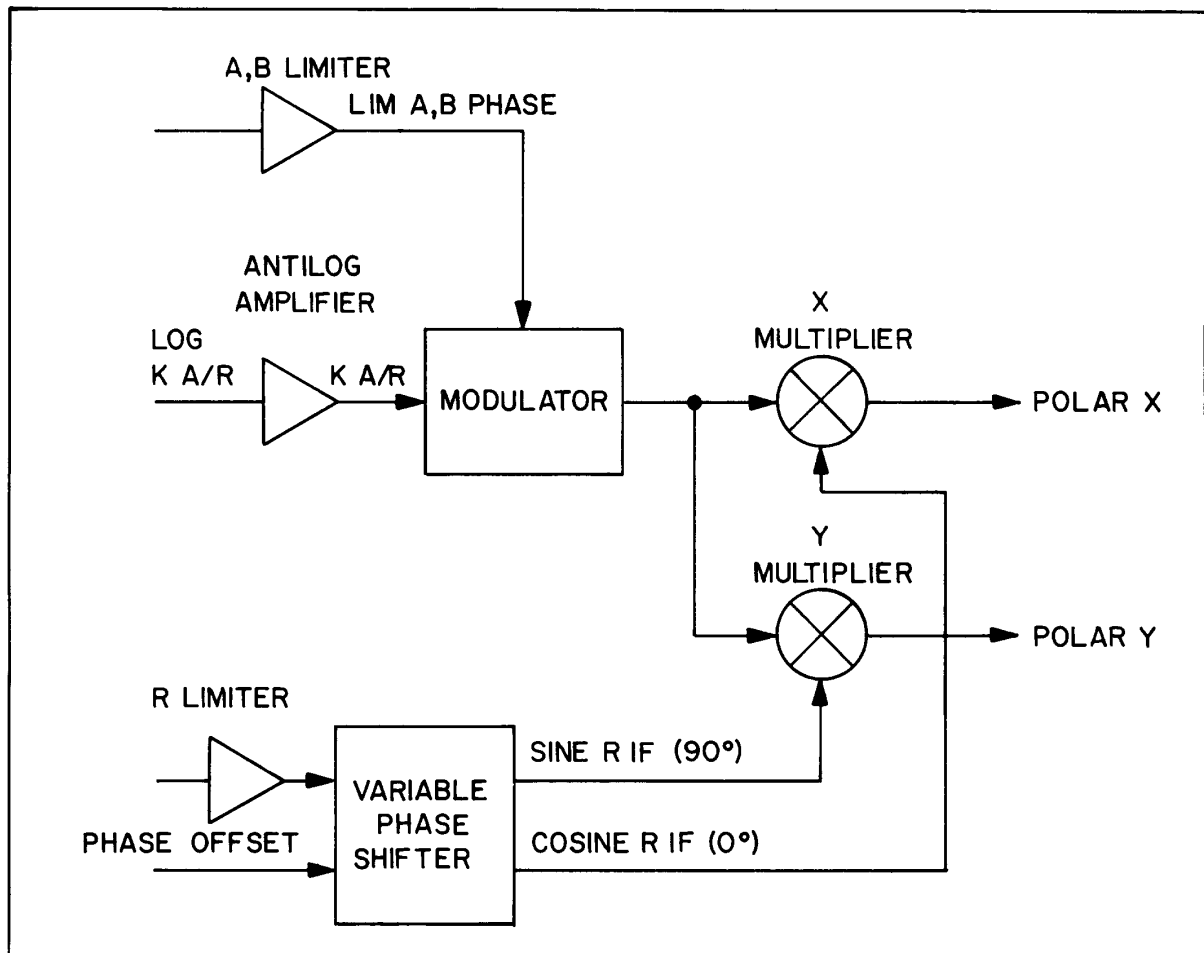

Figure 8-89. Polar Converter, Simplified Block Diagram
Figure 8-89 is a simplified block diagram of the Polar Converter circuits. The LOG K A/R input provides polar magnitude (M) information. The K in the mnemonic is a constant that is set by the front-panel CHANNEL 1 REFERENCE switch and OFFSET vernier. By changing the REFERENCE switch setting (and therefore the value of K), the CRT polar display magnitude scale can be changed for use with expanded or compressed Smith Chart overlays. This logarithmic signal (LOG K A/R.) is scaled, offset and antilogged to produce a linear representation of the difference in magnitude of the A channel and R channel inputs.